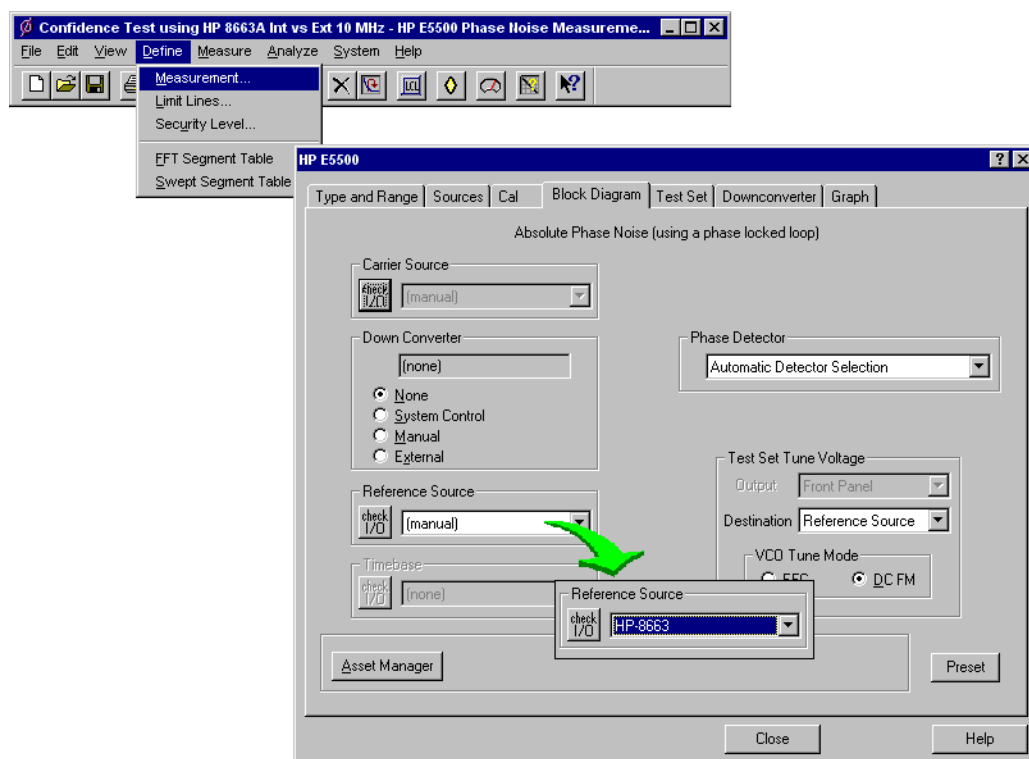

Figure 7-36 Selecting a Reference Source
- Using Figure 7-36 as a guide, navigate to the **Block Diagram** tab.